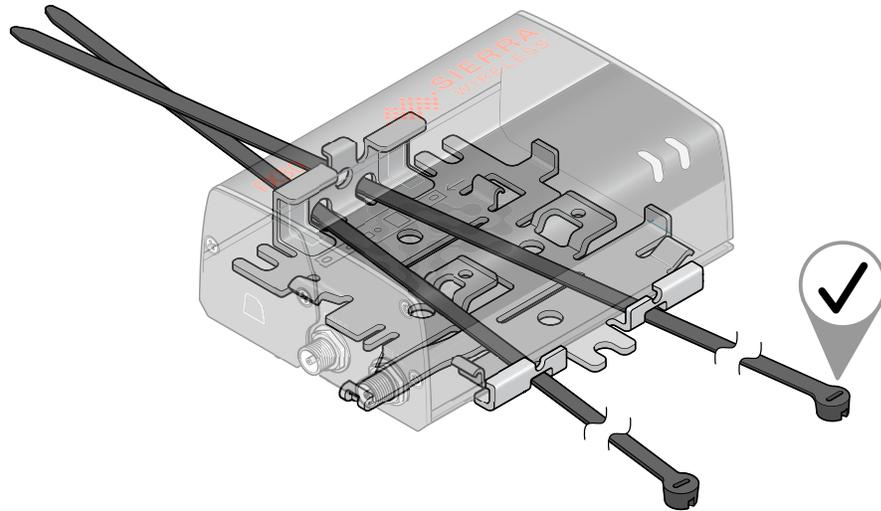

Figure 2-5: Inserting the cable ties
1. Thread the ties into the holes on one side of the bracket and out the holes on the other side of the bracket, as shown in Figure 2-5 on page 16.